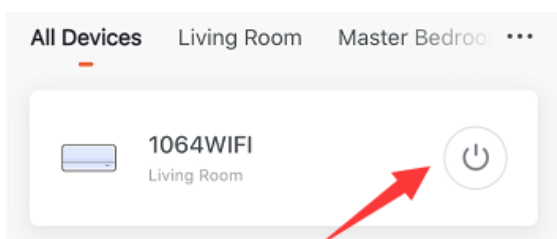

Fig.5
8. Press the arrow at the top left corner, you can get back to the home page, on which you can simply turn on or turn off your appliance. (Fig.5)